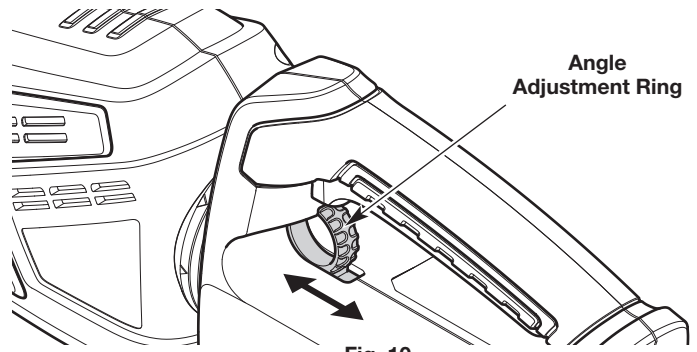

Fig. 10
1. Pull and hold the angle adjustment ring (Fig. 10).